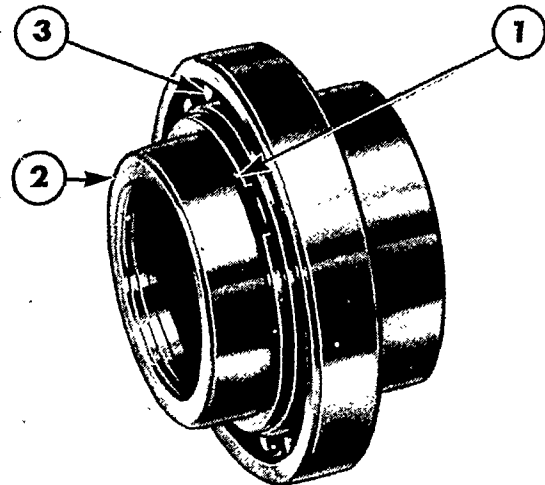

Figure 18
2. Release the output shaft rear bearing retaining ring, Figure 18, and remove the bearing from the sleeve.